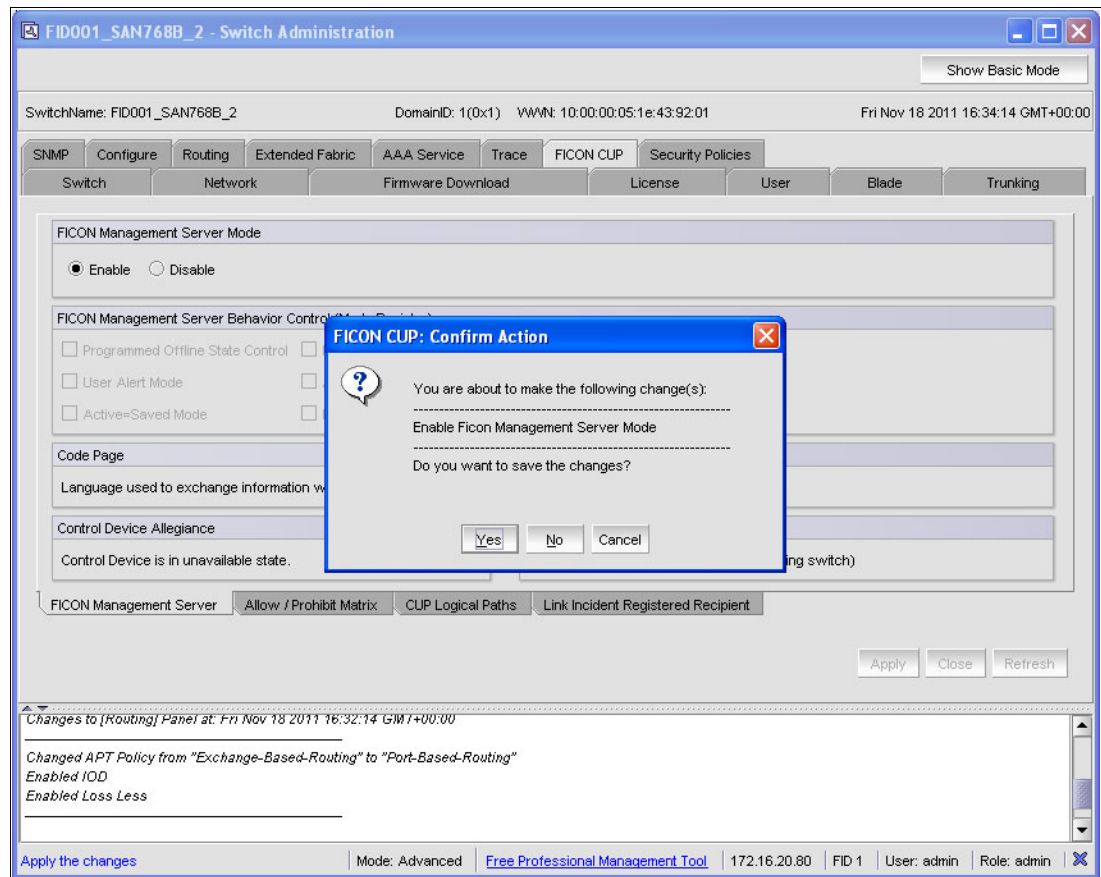

Figure 8-41 Enable the CUP
6. Select the **FICON CUP** tab, as shown in Figure 8-41.